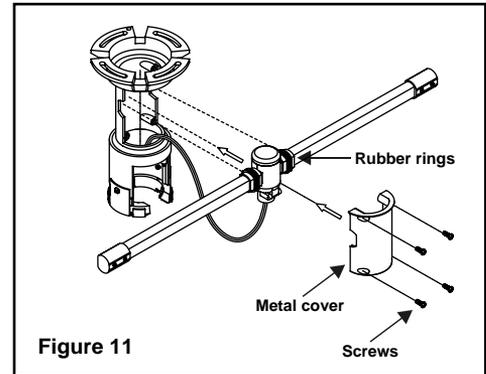

Figure 11
3. Installing the rail to the fan support stem; be sure the rubber rings are placed into the concave of fan support stem. Replace the metal cover with 4 screws that loosened previously. (Fig. 11)